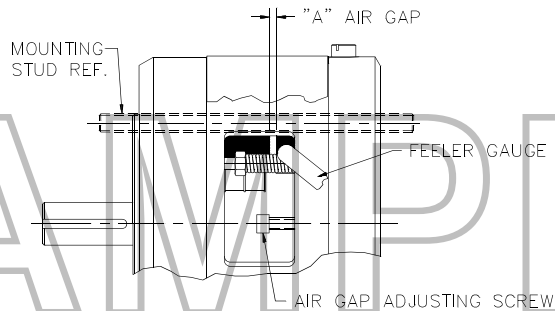

Figure 1. 216A0177-00
WEAR ADJUSTMENT (See Figure 1 Below & Exploded View, Page 10.03)
1. To adjust, remove cover (9) to expose adjusting screws for magnetic air gap "A."
2. Measure air gap "A" using 3/8" to 1/2" wide feeler gauge as shown in Figure 1.